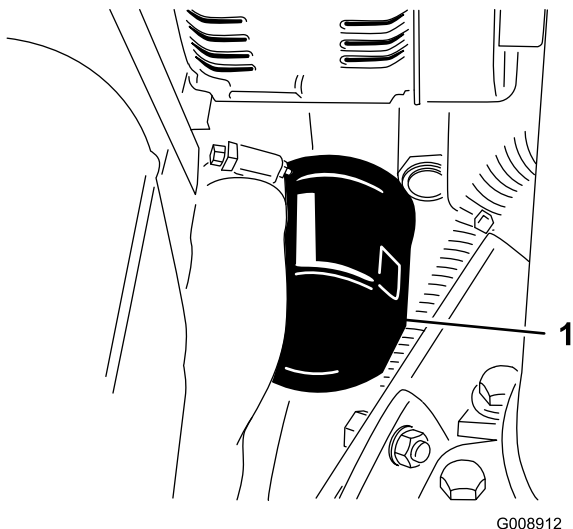

Figure 62
2. Remove the oil filter (Figure 62).